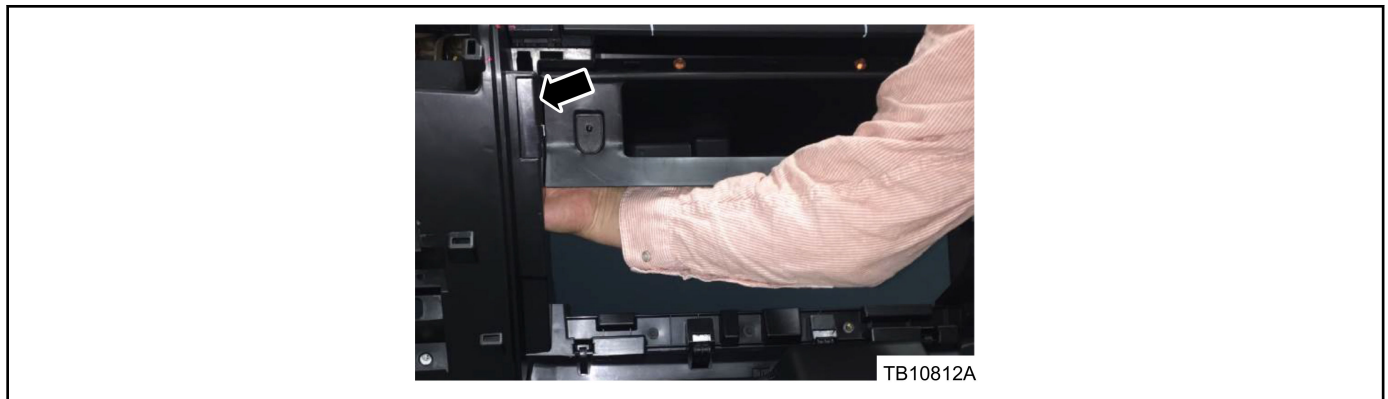

Figure 3 - Article 16-0005
- a. Reach inside the glove compartment opening of the instrument panel, behind the long vertical side of each striker and press them out by hand. (Figure 3)